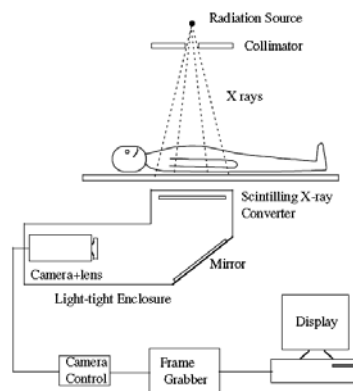

Figure 4. Schematic illustration of a camera-based EPID with the x-ray detector (a phosphor screen) optically coupled to the camera using a mirror and lens.
As illustrated in figure 4 (Vedio-Based EPID sys), the approach involves the use of an x-ray converter that is optically coupled to a camera by means of a mirror and a lens. The converter consists of a flat metal plate (typically an ~ 1 - 1.5 mm copper, steel or brass plate) and a gadolinium oxysulfide (Gd2O2S:Tb) phosphor screen. The metal plate (x-ray converter) serves to (1).converts incident primary x-rays into high energy